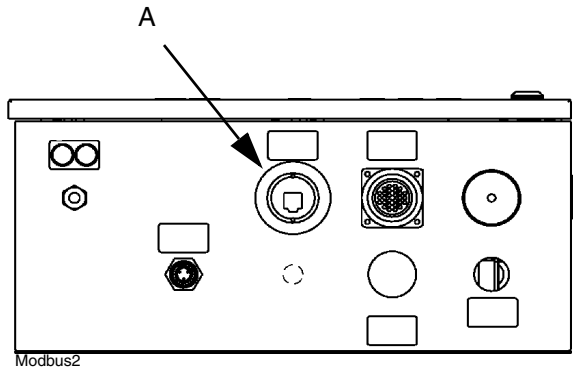

FIG. 2 EasyKey Web Connection
Patch cables are used to connect each ProMix unit to the local network and to the ProMix Web connection (A) on the EasyKey panel. See FIG. 2.